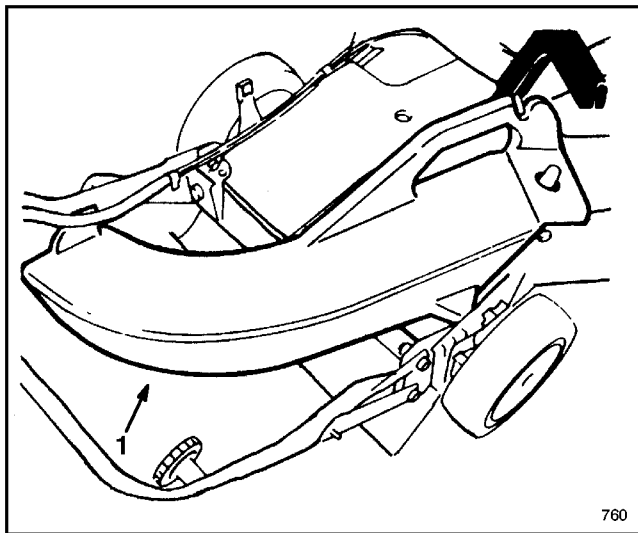

Figure 34
1. **Side Discharge Kit, Model No. 59110**—Installs in seconds. Rear mounted in place of the grass bag. Disperses clippings while trimming on both sides (Fig. 34).